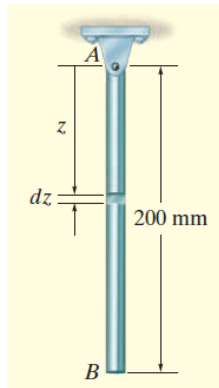

Fig. 1
- The slender rod shown in Fig. 1 is subjected to an increase of temperature along its axis, which creates a normal strain in the rod of  $\epsilon_z = 40(10^{-3})z^{1/2}$ , where  $z$  is measured in meters. Determine (a) the displacement of the end B of the rod due to the temperature increase, and (b) the average normal strain in the rod. [ $\delta_B = 2.39\downarrow$ ,  $\epsilon_{avg} = 0.0119\text{mm/mm}$ ]